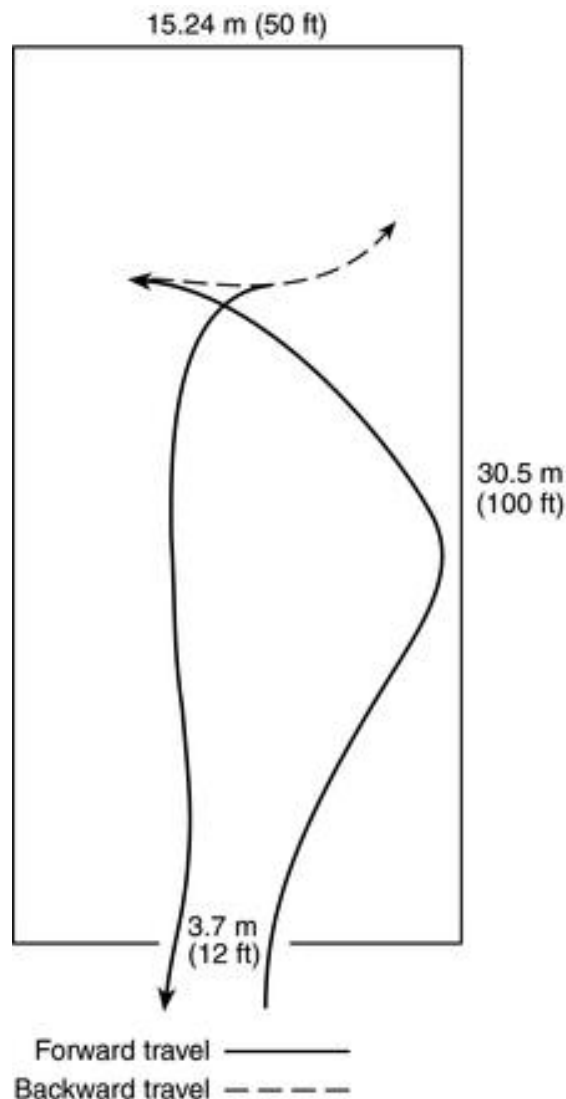

FIGURE A.4.3.4 Confined Space Turnaround.
A.4.3.4: The confined space turnaround can be used as practice for meeting or in the evaluation of this requirement. The turn is accomplished within an area 15.24 m x 30.5 m (50 ft x 100 ft). The driver moves into the area from a 3.7 m (12 ft) opening in the center of one of the 15.24 m (50 ft) legs, turns the vehicle 180 degrees, and returns through the opening. There is no limitation on the number of times the driver has to maneuver the vehicle to accomplish this exercise, but no portion of the vehicle should extend over the boundary lines of the space. (See Figure A.4.3.4.). Note that for large vehicles, such as ARFF apparatus, this course might need to be modified.